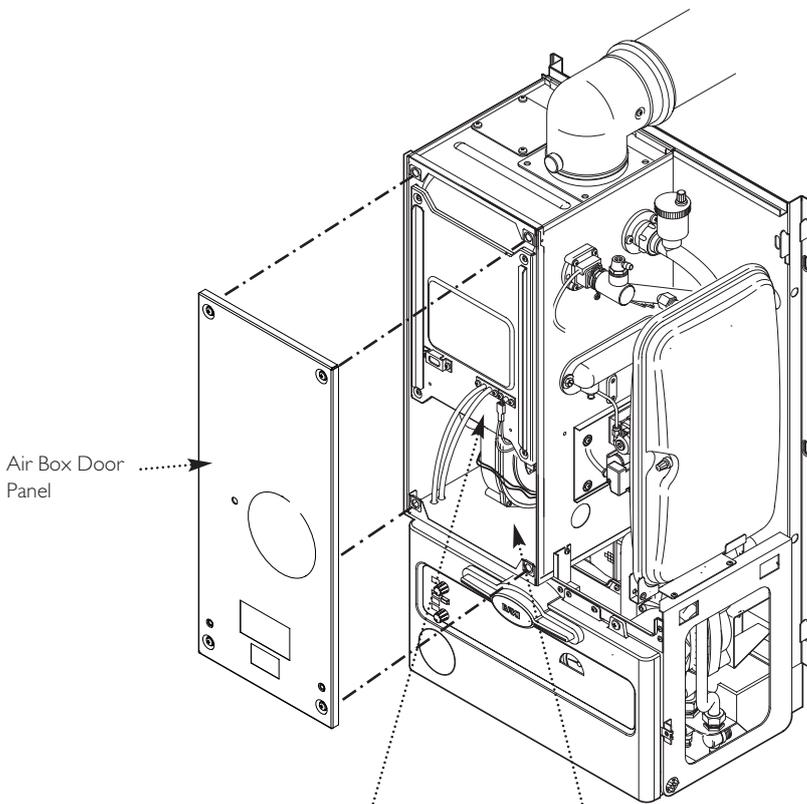

Fig. 64
1. Remove the airbox door panel by loosening the four $\frac{1}{4}$ turn screws (Fig. 64).